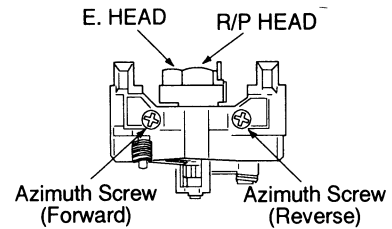

Fig. 3
3. Playback the azimuth adjustment portion (8kHz, -20dB) of test tape (QZZCFM). Adjust the azimuth adjusting screw until the outputs of the L/R-ch are maximized. (Refer to Fig. 3.)